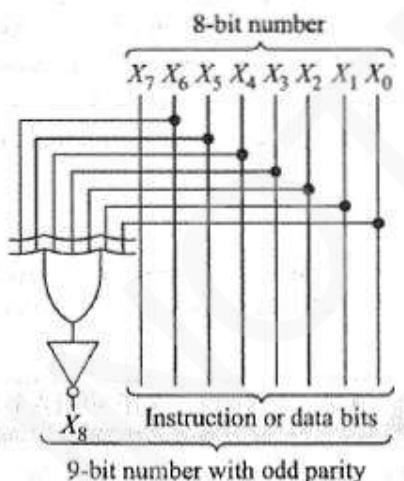

Figure 4.33: Odd parity generator
- Here's how it works (Figure 4.33):